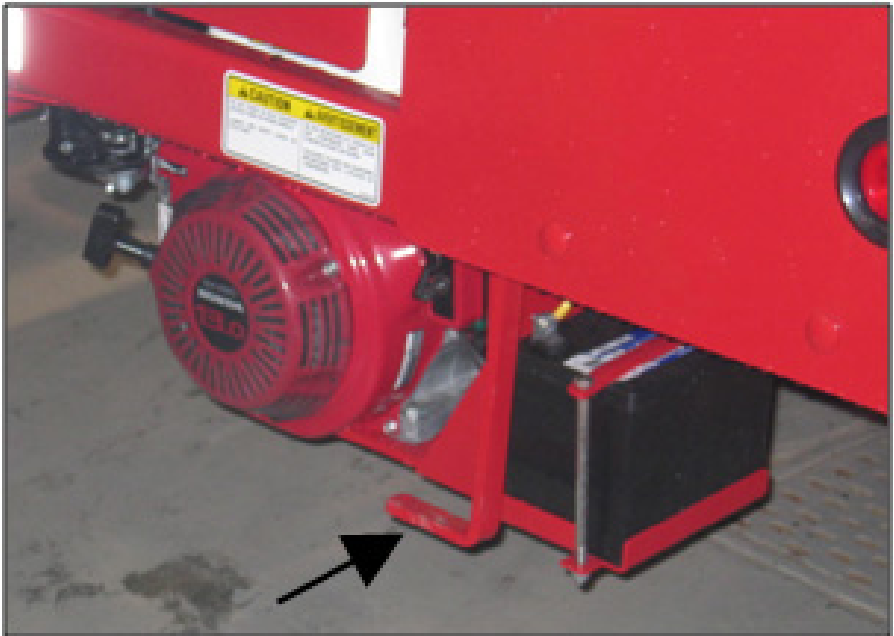

Figure 40 – Adjusting the control for the hoop (manual start of the pusher)
- Push the manual release for the pusher (Figure 40).
4. Press the pedal by the engine to manually engage the pusher (Figure 40).